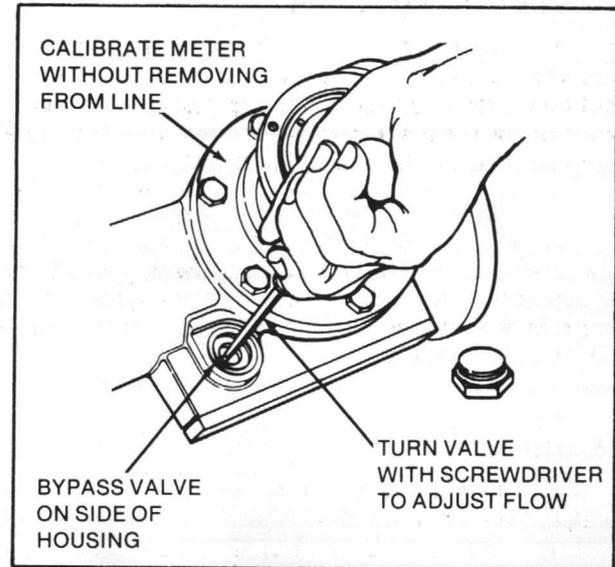

Figure 4-2. Calibrating 2" and 3" Turbo Meters
3. Adjust the bypass valve with a screwdriver in the following manner (See Figure 4-2):